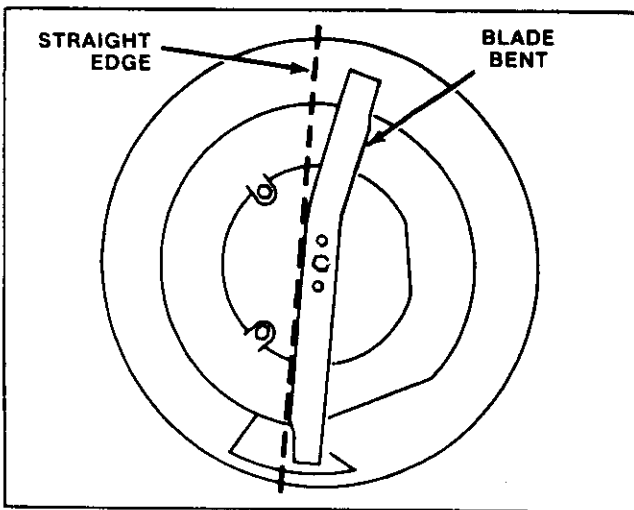

FIGURE 11
1. The blade should follow along a straight line (as shown in Figure 11).